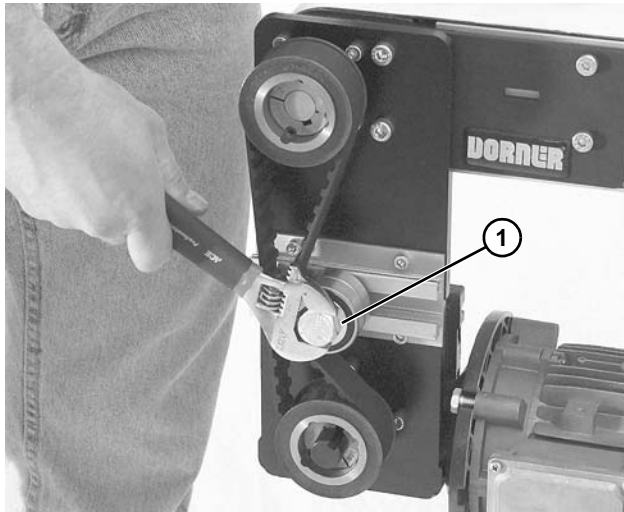

Figure 15
2. Loosen tensioner (**Figure 15, item 1**).